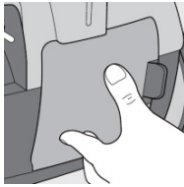

Figure 51
4. Place the filter back into the vacuum cleaner (Figure 51).